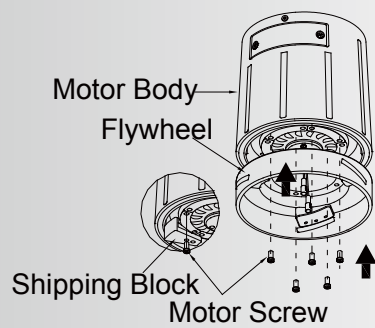

Fig. 14
Step 3. Remove the shipping blocks from the motor body if they are present and save the motor screws for future use. Assemble the flywheel to the motor body using the removed (5) motor screws. (Fig. 14)